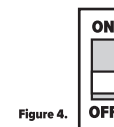

Figure 4.
2. **OFF = SWITCH** Honeywell | 2GIG **See figure 4.**